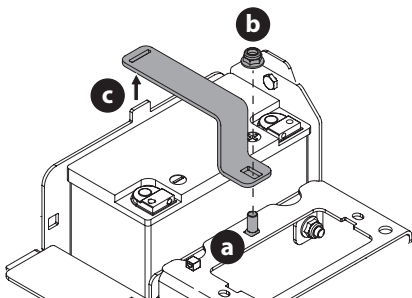

Figure 39
4. Locate and hold the carriage bolt (a) at the front of the battery bracket (c) to prevent it from falling (Figure 39).
5. Remove the hex lock nut (b) securing the battery bracket (c) in place. Save the carriage bolt and hex lock nut for later reinstallation (Figure 39).
6. Lift the battery bracket (c) off of the tab at the left side of the battery compartment and save for later reinstallation (Figure 39).